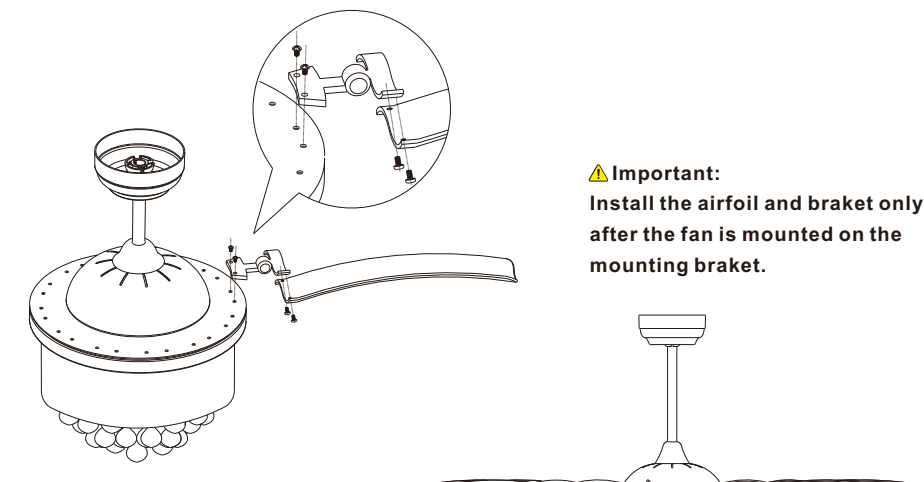

Fig 8.1
- 8.1 Gently attach the Airfoil to the Airfoil bracket with the M5 screws, then align the screw holes and securely tighten after both screws are in place. (Fig 8.1)
- 8.3 Gently attach the Airfoil Brackets to the motor hub with the M6x10 screws in the screws bag, then align these screw holes and securely tighten after both screws are in place. (See Fig 8.1) There are eleven Airfoil Brackets to be installed. (See Fig 8.2)